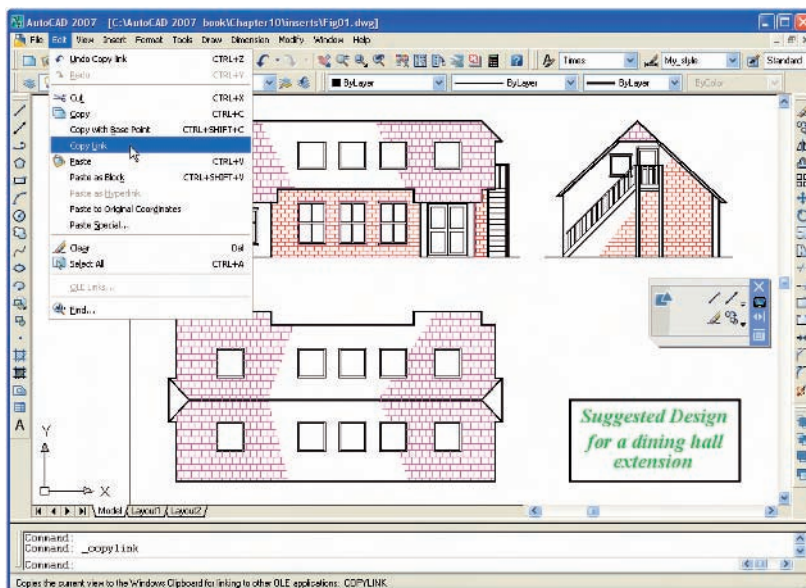

Fig. 10.1 A drawing in the AutoCAD 2007 window showing **Copy Link** selected from the **Edit** drop-down menu
1. Open any drawing in the AutoCAD 2007 window (Fig. 10.1).
2. *Left-click Copy Link* in the **Edit** drop-down menu (Fig. 10.1).